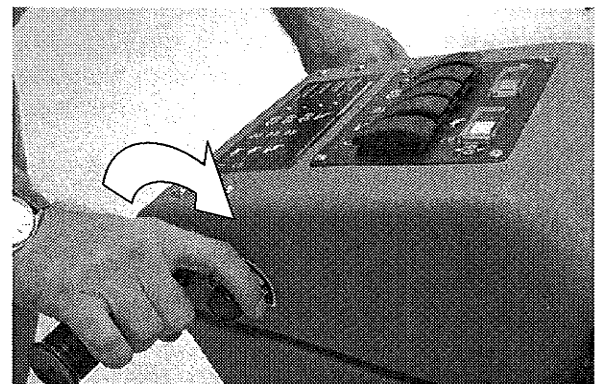

FIG. 14
4. To transport, roll control grips forward and gradually turn speed control knob to desired speed (Figure 14).
- Roll control grips forward and gradually turn speed control knob to desired speed (Figure 14).